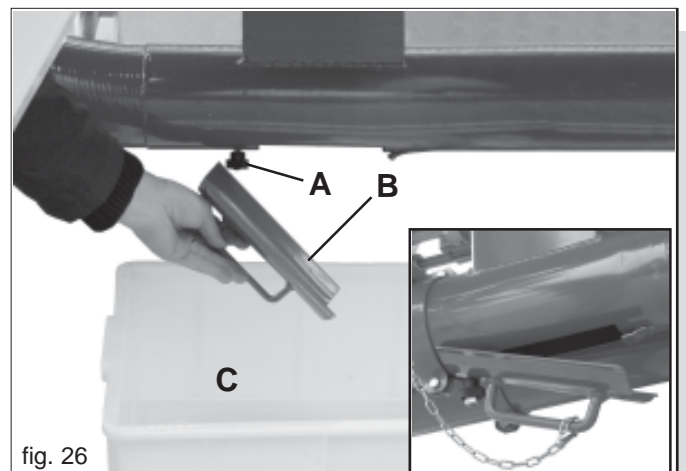

fig. 26
- Loosen the knobs (A, Fig. 26) and remove the sliding gates (B).
- Position the seed collecting trays under the seed discharge outlets (C Fig. 26).